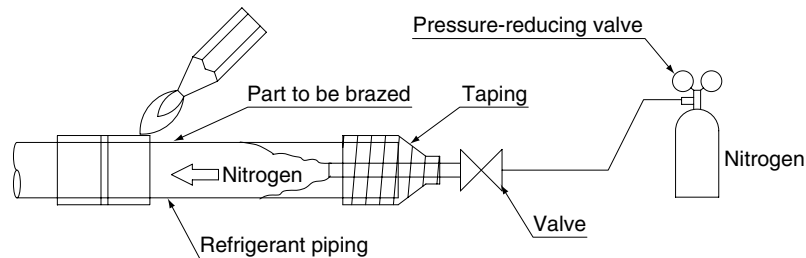

Fig. 5
- When brazing refrigerant piping, begin working after replacing the nitrogen (*1) or perform brazing while nitrogen is flowing in the refrigerant piping (*2) (Refer to Fig. 5), and at the end made the indoor unit and BS unit flare or flange connections.